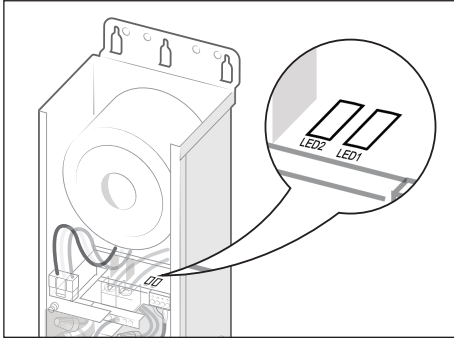

Figure 6. LED1 and LED2
9. Turn on the breaker to restore power (LED2 will turn on red and LED1 will start flashing green). Pool & Spa Lights will be off due to control from automation, see *Figure 6*.